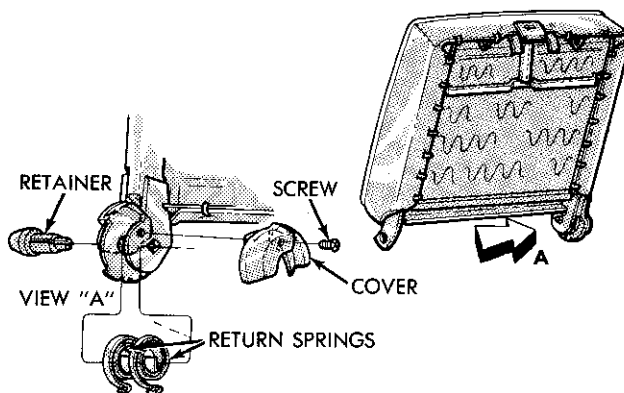

Fig. 33—Seat Back Mechanism
(8) Remove the snap ring and washer from the end of the pawl.
(9) Remove the bolt attaching the handle (and release pedal—two door models only) to the pawl and remove the handle.
(10) Remove the pawl from the outer stanchion.
(11) Remove the reclining mechanism cover and screw from the outer stanchion (Fig. 33).
(1) Lubricate **sparingly** the inner and outer spring ends, the gear tooth area and the end of the spring retainer that fits into the seat cushion stanchion.
(2) Start the spring retainer into the seat back gear and position the springs on the retainer.
(3) Tap the retainer fully into position (Fig. 33).
(4) Position the cover over the mechanism and install the retaining screw.